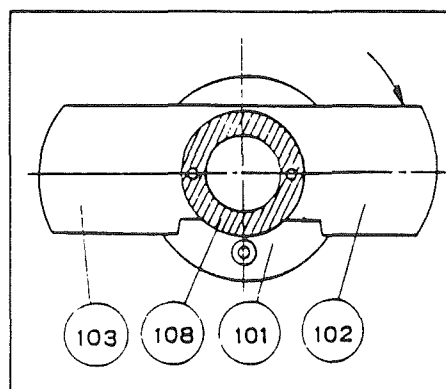

Fig. 18
- 8) Screwing in rotation-tightness adjusting knob (108) into (101), make the torque 1.5 Kg ~ 2 Kg. To measure the torque, use a tension gauge in the direction of the arrow in Fig. 18.